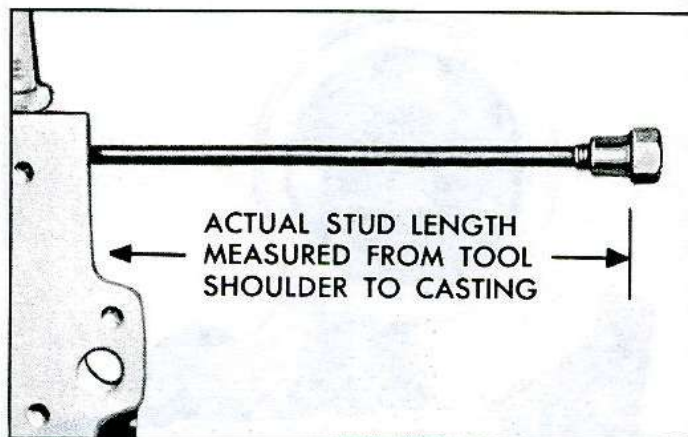
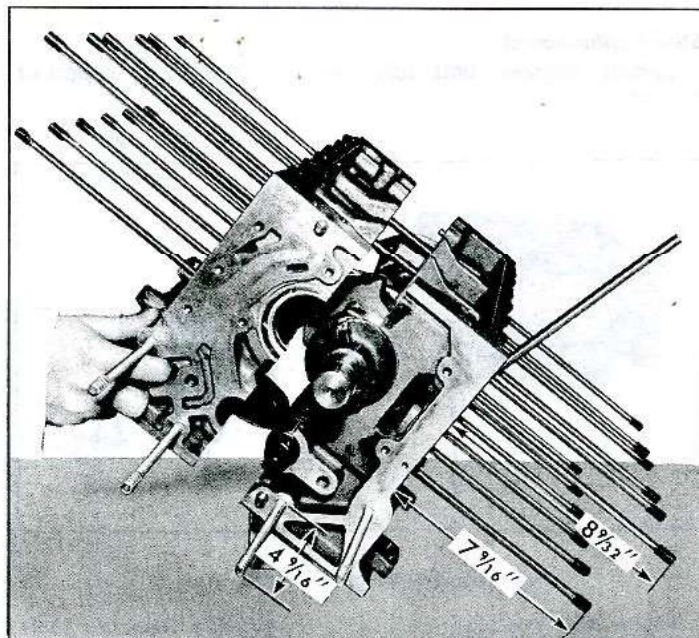

Fig. 109—Installing Studs
Fig. 110—Stud Installed Length
1. To install crankcase studs, install long cylinder studs to a projected length of 8-9/32" and short cylinder studs to a projected length of 7-9/16" (fig. 110) using Tool J-8354-1 (3/8-24) (fig. 109). For easy measuring of stud installed length, measure from Tool J-8354-1-2-3 shoulder.
2. Install engine rear mounting bracket studs, to a projected length of 4-9/16" (fig. 110) using Tool J-8354-3 (3/8"-16).